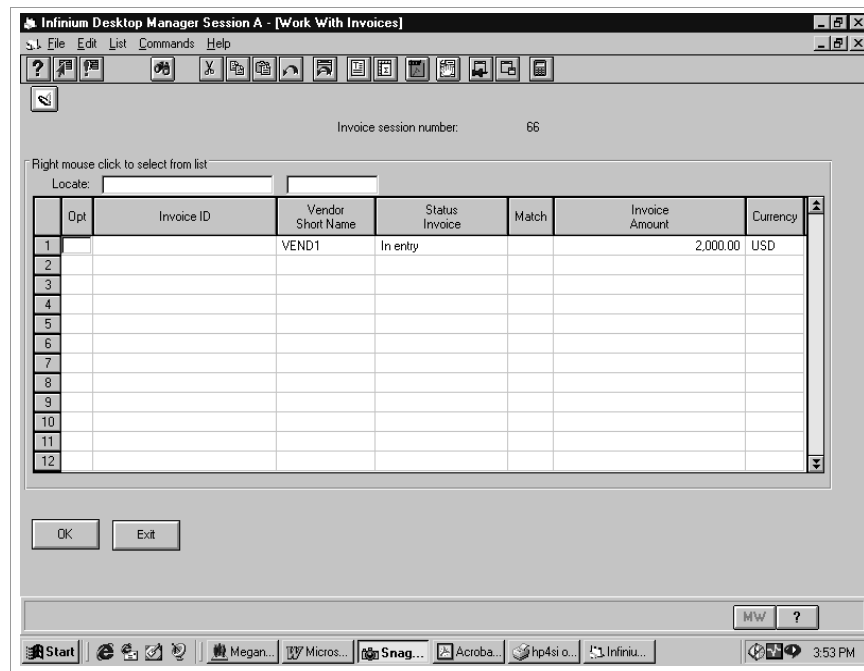

Figure 7-8: Work With Invoices screen
- 4 Select **Work with invoices** or type **5** and press Enter. The system displays the screen shown in Figure 7-8.